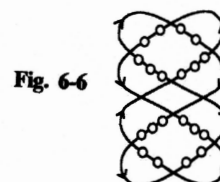

Fig. 6-6
6. Double-square braid (Known in kumihimo "Mitake-gumi"). (Fig. 6-6)